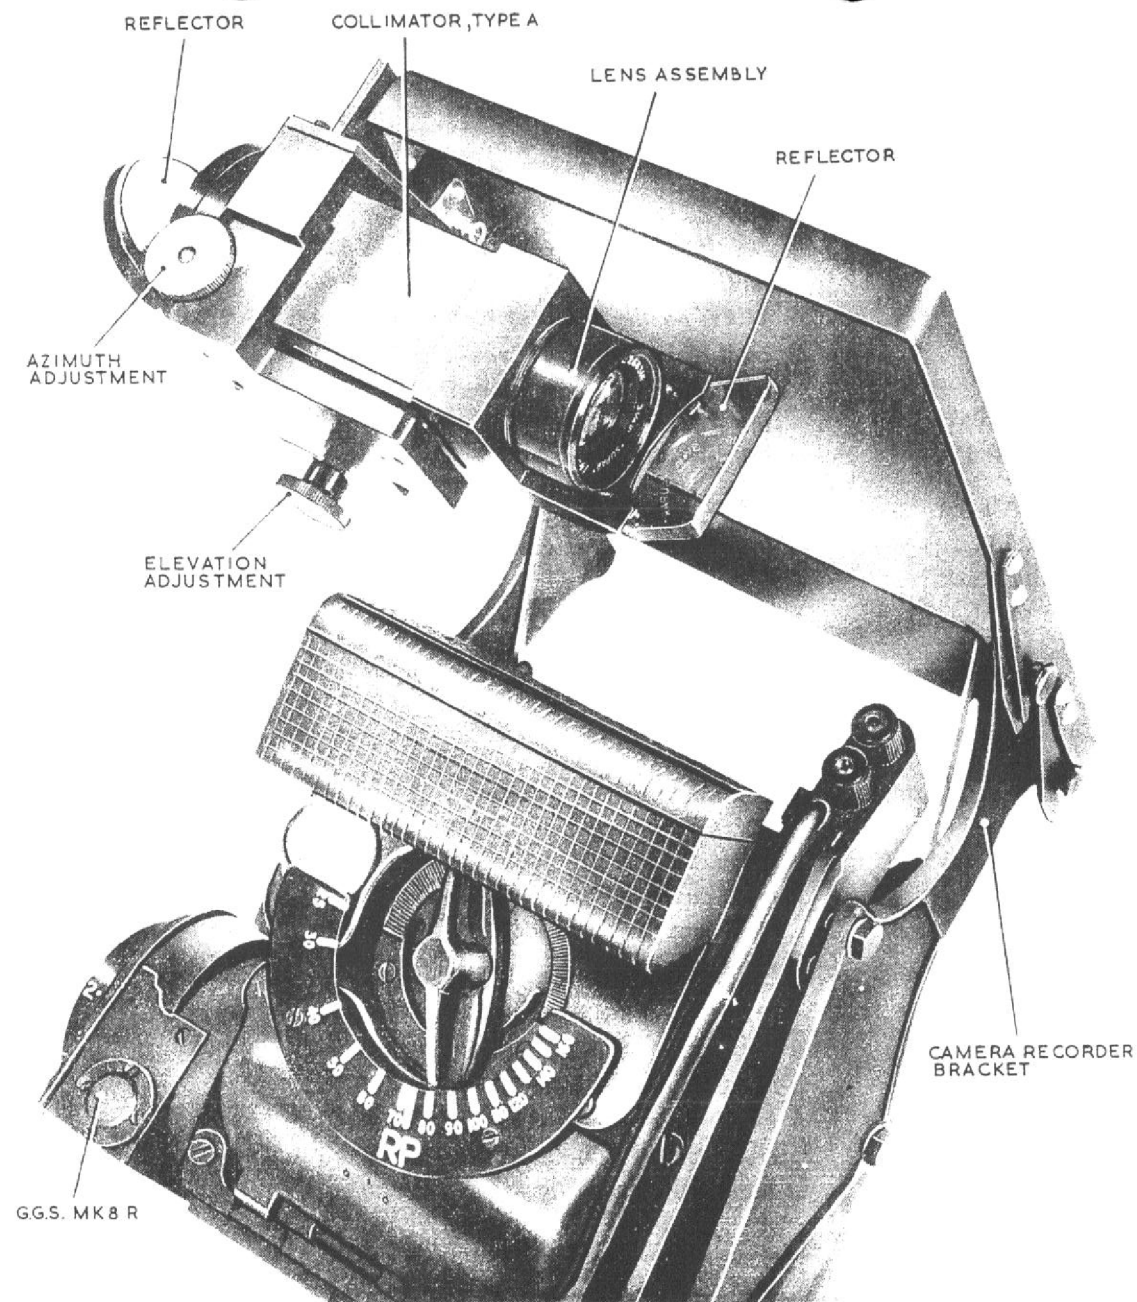

Fig.1 Collimator, Type A fixed to sighting head
(1) Fit the collimator, Type A to the camera recorder brackets (fig. 1).